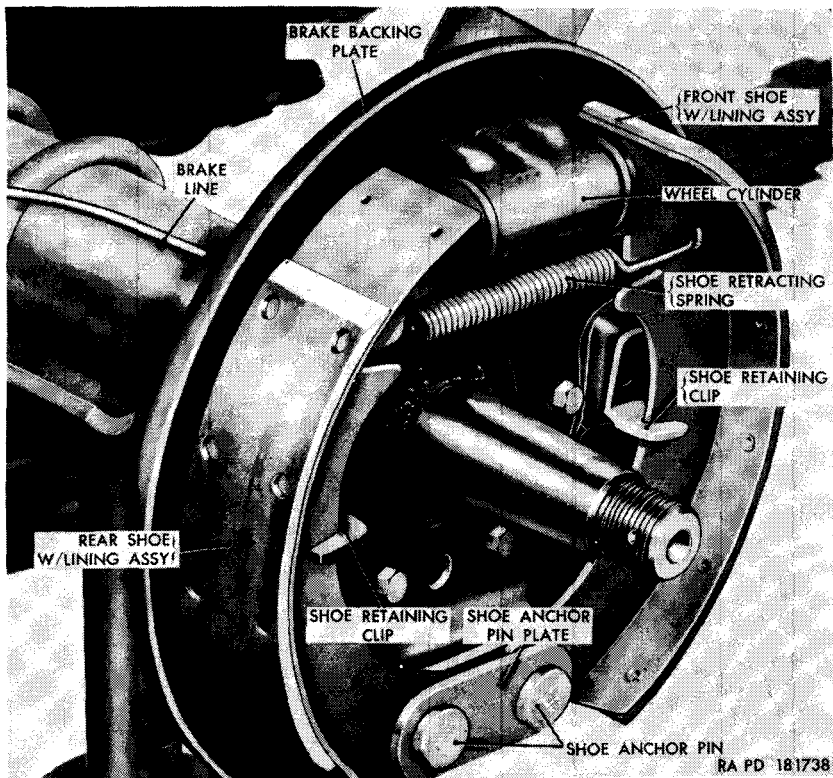

Figure 116. Service brake assembly—brake drum removed (right rear shown).
- (1) Remove wheel (par. 237).
- (2) Rotate the brake drum until the slotted opening in the drum is at the lower end of a brake shoe and insert a 0.005-inch feeler gage through the opening between the lining and the drum. If the clearance is greater or less than 0.005-inch, adjust to proper clearance. To adjust the lower end of a shoe, loosen the nut on the shoe anchor pin (fig. 116) on the inner side of the brake backing plate. Turn the shoe anchor pin with a wrench until the proper clearance is obtained. Hold the shoe anchor pin with the wrench and tighten the nut on the anchor pin. Repeat the operation on the second brake shoe and anchor pin.
- (4) Install wheel (par. 228 or 256).
- (5) Repeat the procedure for the other three wheels.
*d. Brake Shoe Removal (fig. 116).*
- (1) Remove wheel (par. 256).
- (6) Pull the brake shoes out from the wheel cylinder, free from the shoe retaining clips, and remove the shoes from the vehicle.
*e. Brake Shoe Installation (fig. 116).*
- (1) Position the brake shoes on the backing plate, sliding the shoes into the shoe retaining clips and the wheel cylinder. The shoe with the long lining goes to the front.
- (2) Insert shoe anchor pin cam into the hole in each shoe. Place the shoe anchor pin plate in position over the cams in the shoes. Insert the shoe anchor pins through the plate, cams, and backing plate. Place a lockwasher on each shoe anchor pin on the inner side of the backing plate and screw nut on each pin but do not tighten. Hook the shoe retracting spring into each brake shoe and remove the brake wheel cylinder clamp.
- (3) Position the brake drum on the hub, align the holes in the drum with the holes in the hub, and install the three  $\frac{1}{4}$  x  $\frac{5}{8}$  bolts.
- (4) Adjust the brakes (*c* above) and install wheels (par. 256).
(fig. 116)